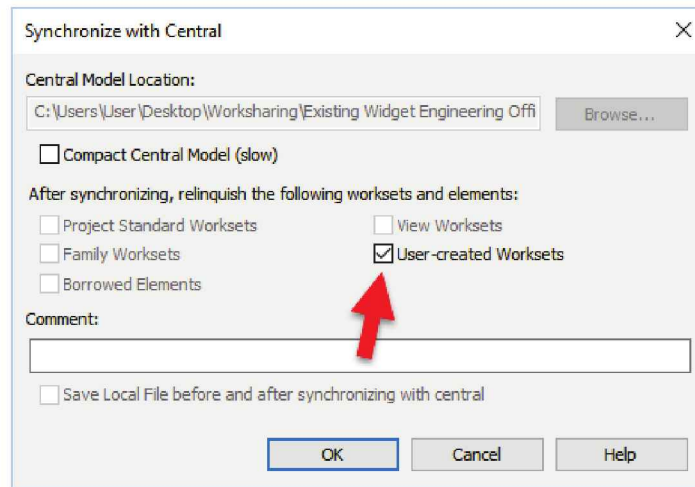

FIGURE 17-4.7 Synchronize with Central dialog
7. Check all checkable boxes, except the *Compact Central Model*; ignore the grayed out boxes and then click **OK** (Figure 17-4.7).